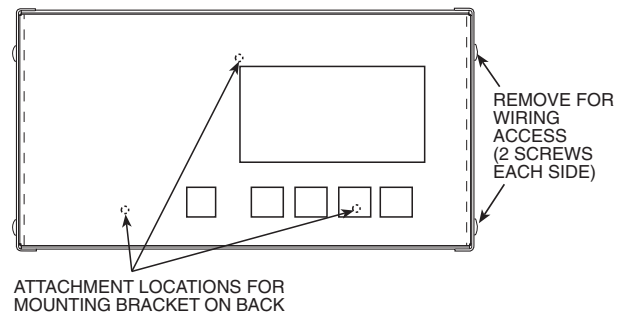

Fig. 2 — Remote Enhanced Display and Control Box Assembly
1. Locate the remote enhanced display/control box assembly. Remove the four 10-32 x ³/₈-in. machine screws that secure the enhanced display to its control box. Separate the display from the control box. See Fig. 2. Place the screws and the display in a safe location for later use.